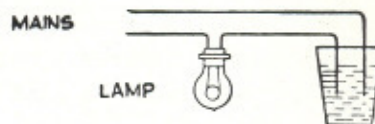

FIG. 4.
(20) **The polarity of the charging wires** to the battery may be tested by dipping their ends in a glass of water, to which a teaspoonful of salt has been added. In doing so it is assumed that a charging or limiting resistance, or lamp of "mains" voltage, is already in series so as to avoid trouble from short circuiting (Fig. 4). Bubbles of gas will form on the negative wire.